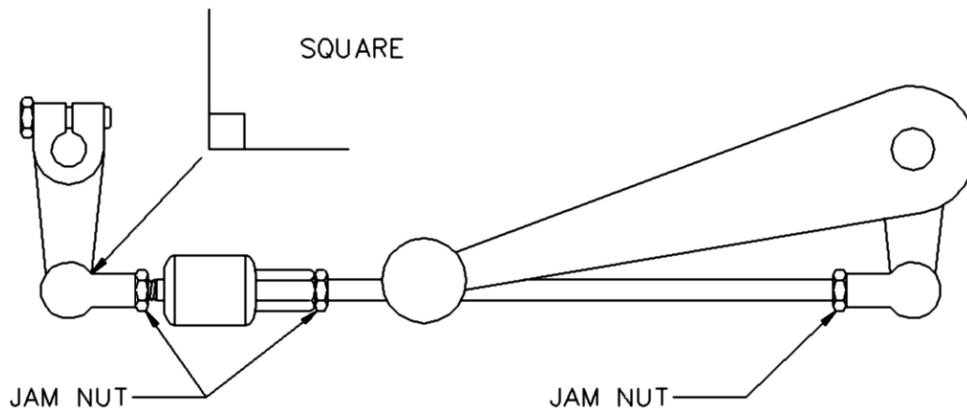

Figure 10 - Quickshifter setup example
13. Grasp the shift lever with your hand and upshift into the next higher gear. The shift lever should first rotate a few degrees at which point the quickshifter should stroke about 1mm (1/32") at which point you should hear two quick *clicks* from the *Nextup PnP Controller*. When released the shift lever should spring back into its normal position. Best shifting action will occur when the knuckles joints are setup at 90° (square) angles (figure 10).